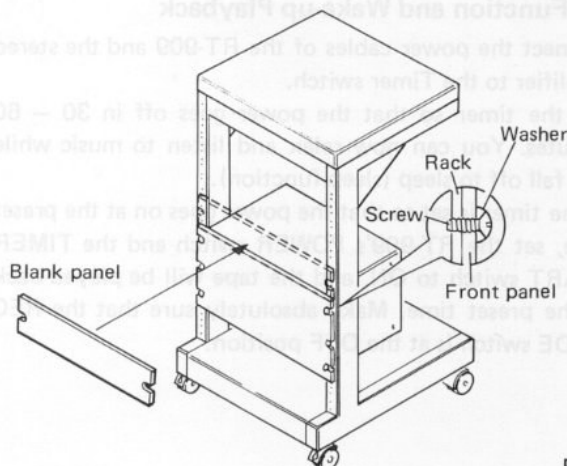

Fig. 27
4. Anchor the front panel to the rack with the six mounting screws (accessory to rack). (See Fig. 27)